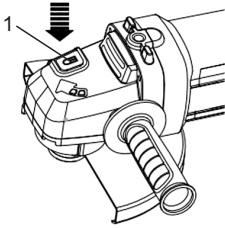

Fig. 11
1. Press the spindle lock button (1) and turn the spindle until it locks in place (Fig. 11).